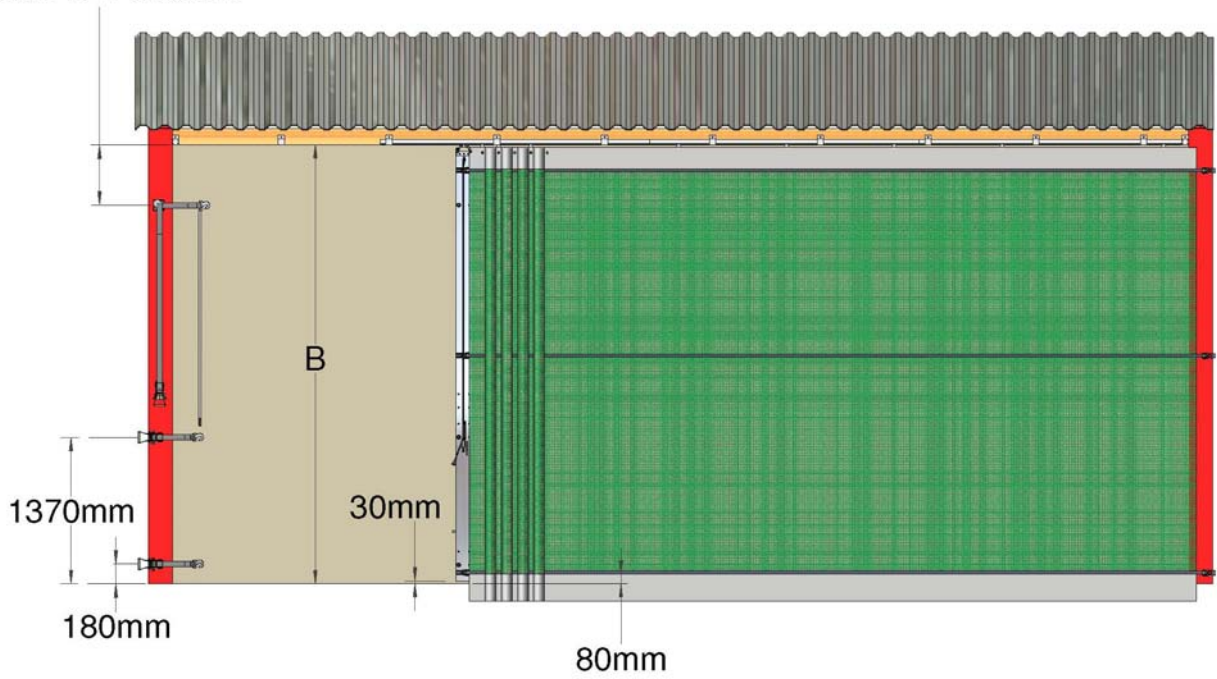
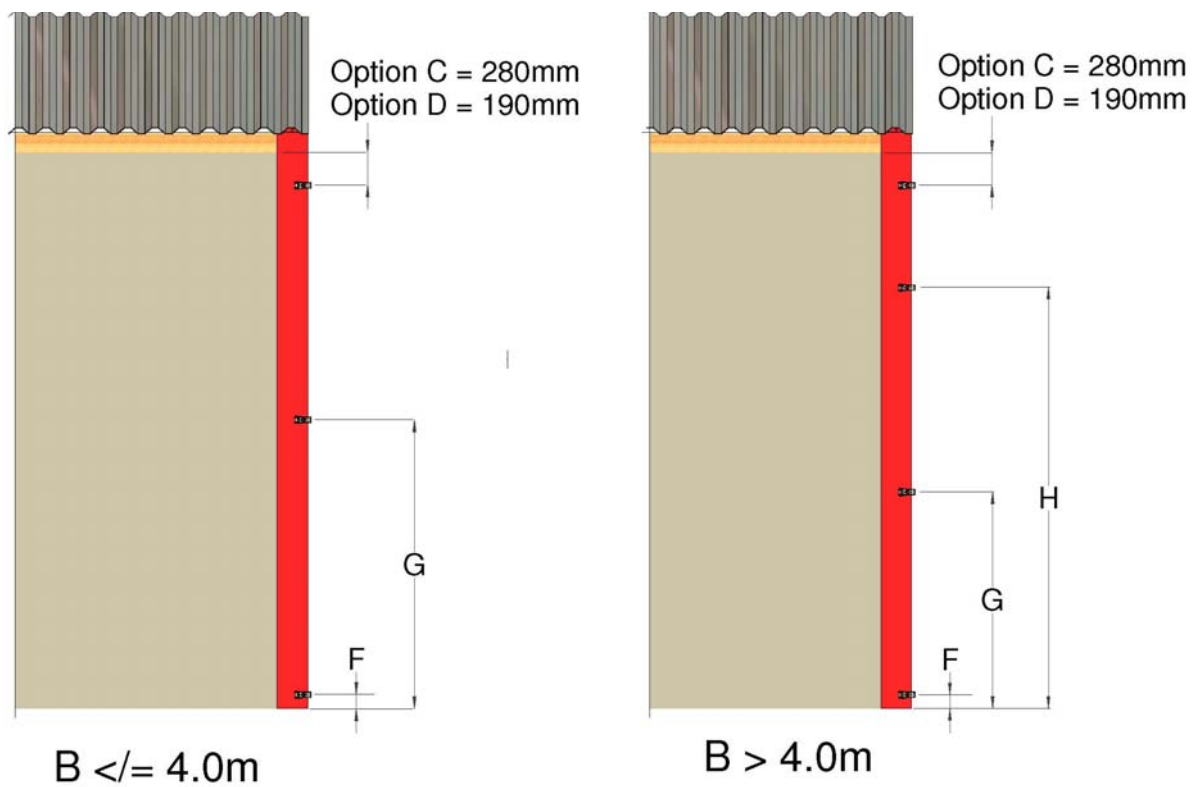

Figure 3a, 50mm Ratchet Positions $B > 3.0m$
Figure 5, Fixed End Ratchet Positions
Figure 3a shows the positions of the tensioning ratchets and corner plate for screens with B greater than 3.0m.
Figure 5 with Table 2 gives the positions of the fixed end ratchets on the building upright. The upright must be clear of any obstructions over the full height to allow the fitting of the screen windseal.
7.1.1 Both posts close against the central upright, the positions of the post tensioning ratchets for the right hand screen is given in Figures 3a and 3b. The positions of the lower ratchets for the left hand screen are 125mm above the right hand ratchets.
7.2.1 Both screens are fixed to the central upright and close against the outer uprights. The positions of the fixed end ratchets are as given in Figure 5.
The fixed end ratchets are positioned as in Figure 5. The lower post tensioning ratchets are positioned 125mm higher than that shown in Figures 3a and 3b.